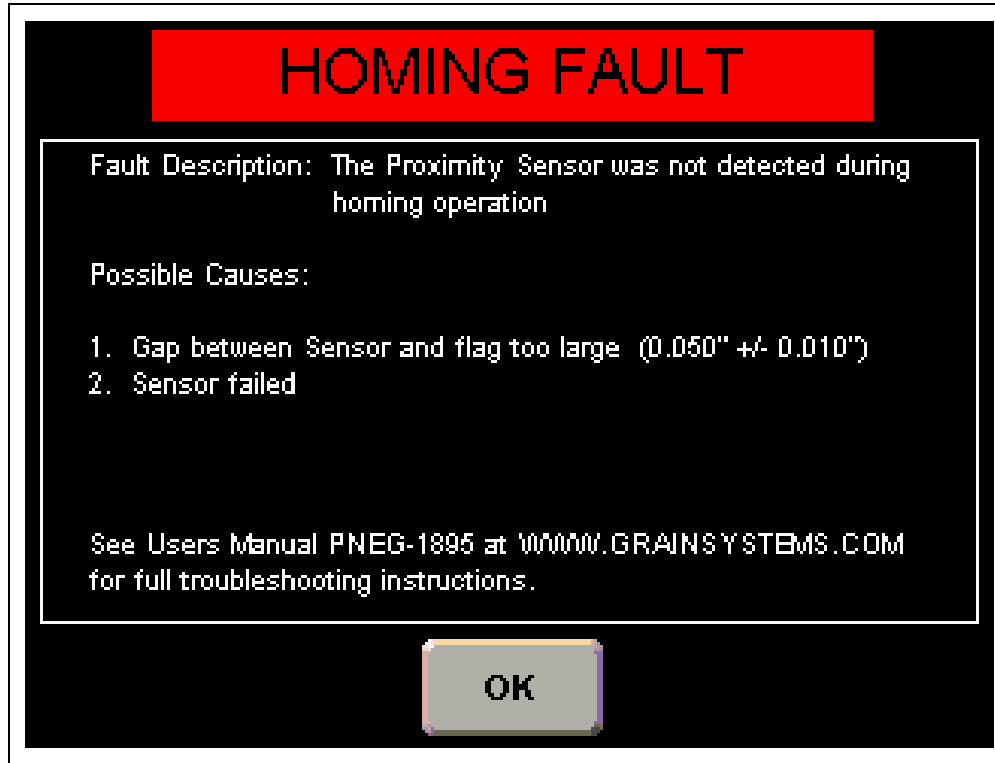

Figure 4W Homing Fault Screen
**Homing Fault:** Displays the “Homing Fault” screen which offers possible causes and solutions to faults caused by a timeout of the homing procedure. (See Figure 4W on Page 36.)